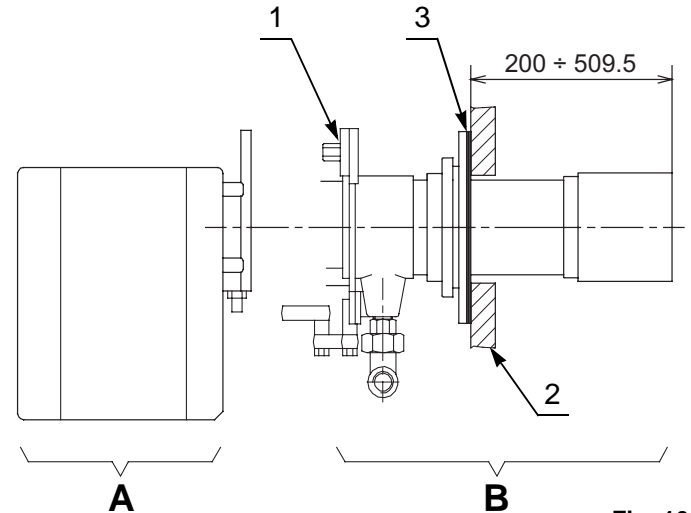

Fig. 10
The burner can be fixed to the boiler with a variable protrusion of the combustion head indicated in Fig. 10.
- Separate the combustion head assembly from the burner body by removing nut 1) and removing the group A)(Fig. 10).
- Fix the group B)(Fig. 10) to the boiler plate 2), inserting the supplied insulating gasket 3).